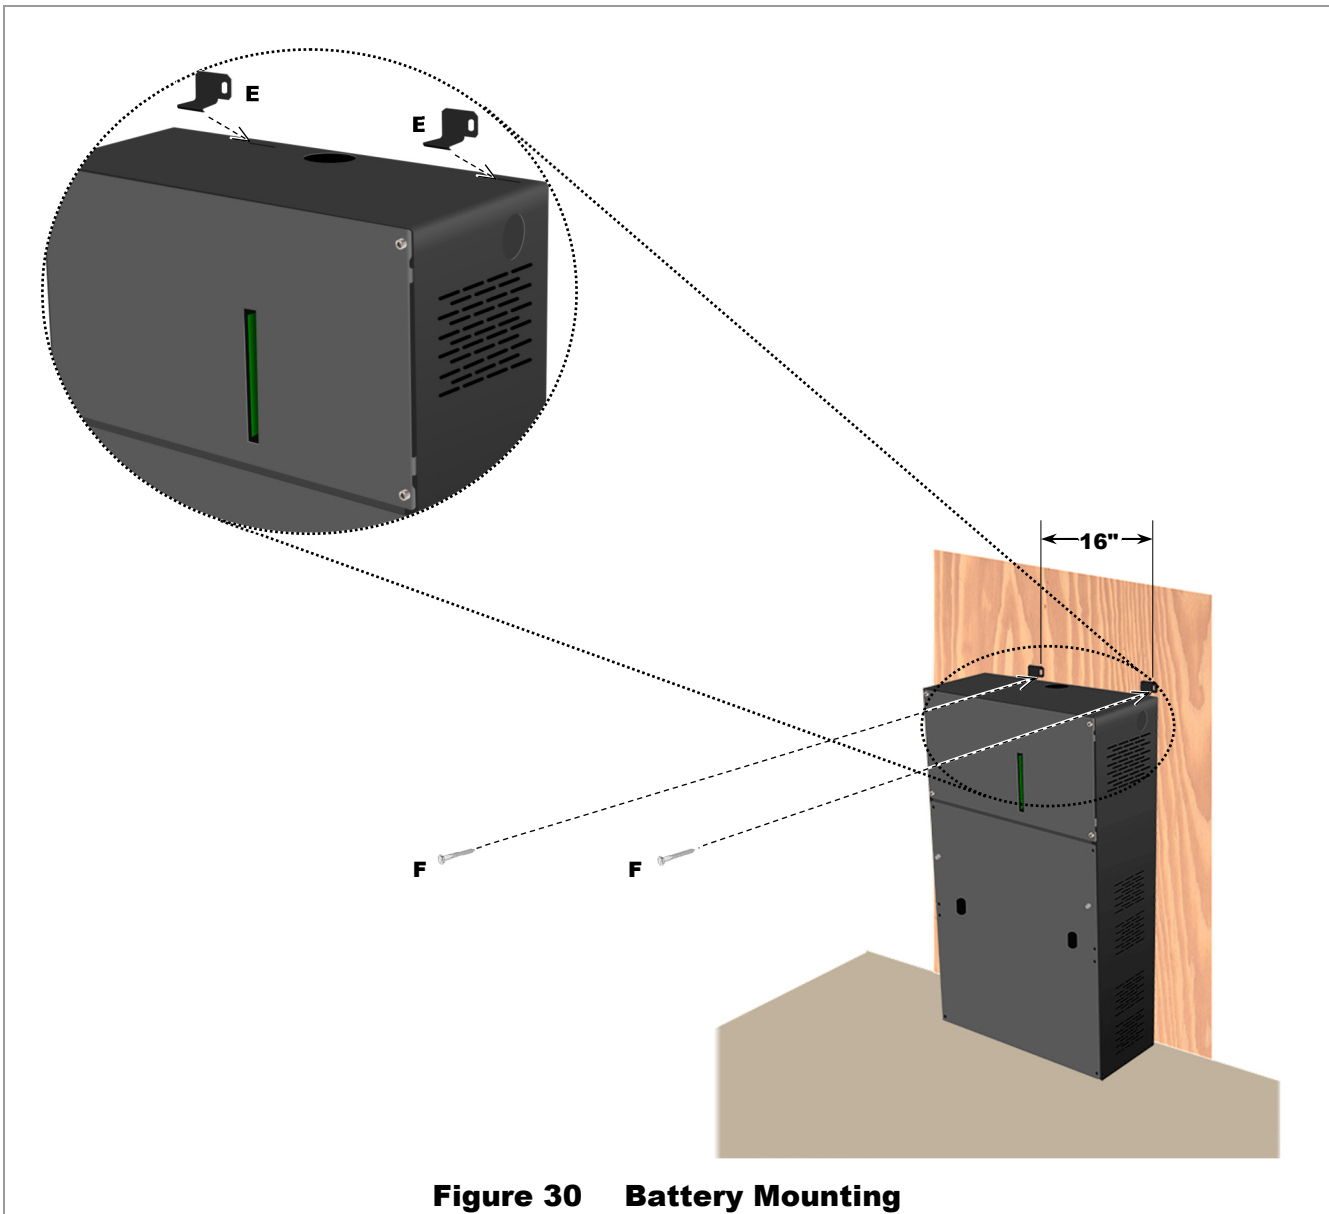

Figure 30 Battery Mounting
NOTE: If the wall structure does not have studs with 16" spacing, the mounting surface should be reinforced with attached plywood or similar material as shown in Figure 30.
3. Insert the brackets **E** into the top slots on the battery as shown in the Figure 30 inset. These brackets will sit loosely until secured in the next step.